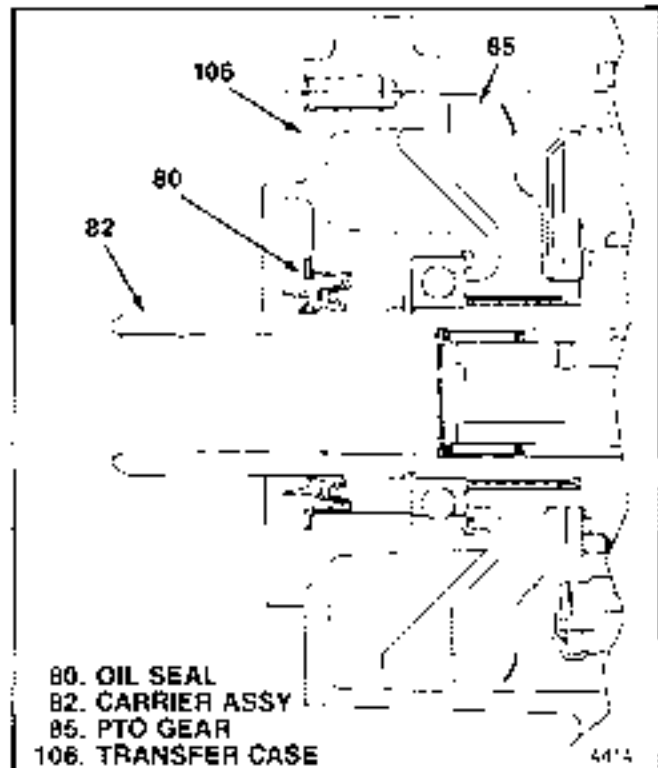

Figure 5-5. Oil Seal and PTO Gear Position
a. Align splines and install PTO gear (85) on input shaft of carrier assembly (82). Position gear with respect to carrier assembly as shown in figure 5-5.
b. Position carrier assembly (82), with installed PTO gear (85) in transfer case (106) and install retaining ring (81) in groove in input shaft of carrier assembly.
c. Position oil seal (80) as shown in figure 5-5 and press into transfer case (106) until seal flange seats on case.
d. Install ring gear (84) in transfer case (106), lug end of gear last. Engage gear lugs with case notches and install snap ring (83).